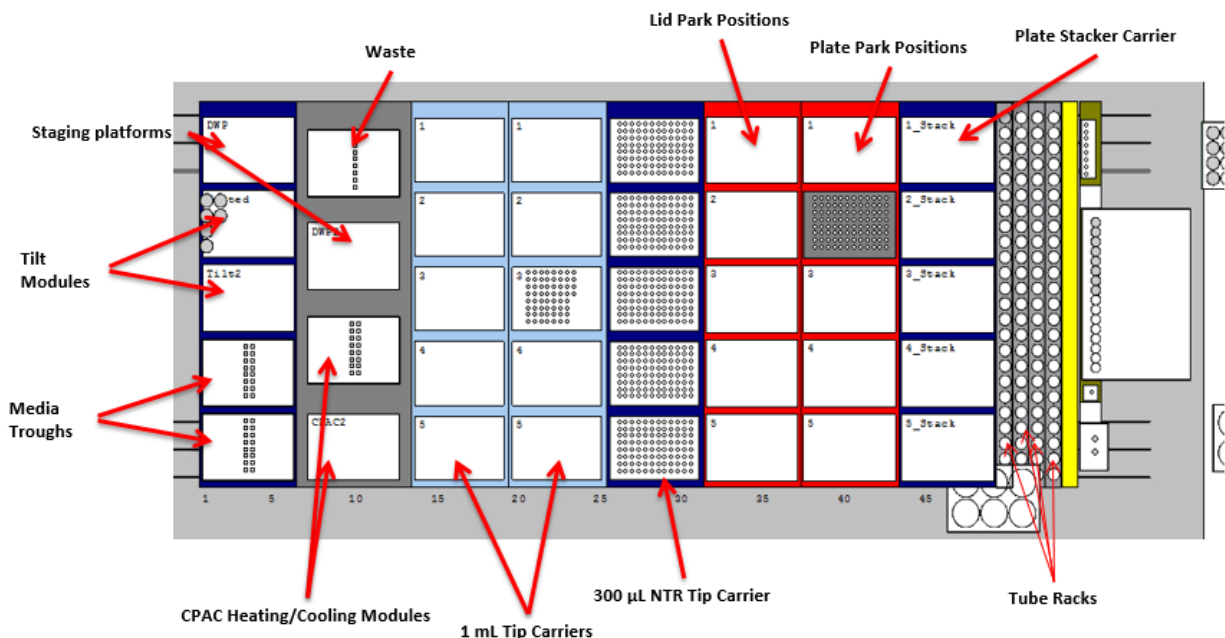

Figure 1. Hamilton STAR Deck Layout.
2. Place barcoded 96-well plates on the Plate Stacker Carrier (see Figure 1). Place a flat bottom robotic reservoir (300_mL) in CPAC1 location (see Figure 1).